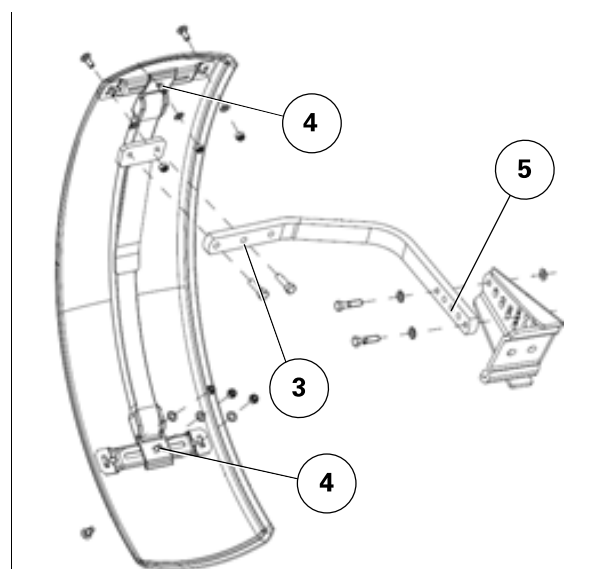

Fig. 7.
1. Modify the position of the support (5) fig. 7 to adapt the height of the fender to the size of the wheel.